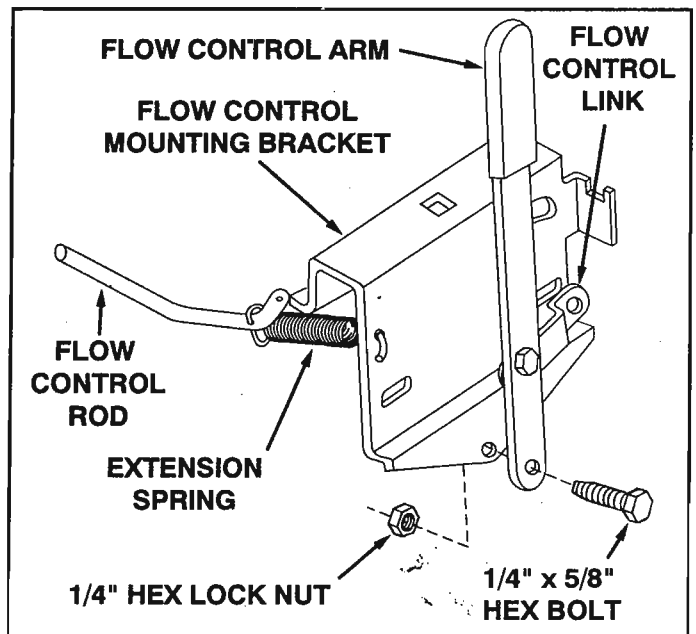

FIGURE 11
17. Assemble the flow control arm to the flow control mounting bracket using one 1/4" x 5/8" hex bolt and one 1/4" lock nut. See figure 11. **DO NOT OVERTIGHTEN, FLOW CONTROL ARM MUST PIVOT FREELY.**
18. Hook one end of extension spring through small hole near bend in flow control rod and the other end through hole in flow control mounting bracket. See figure 11.